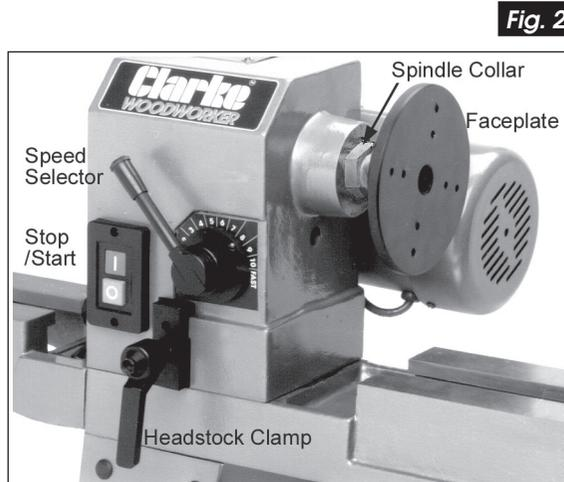

Fig. 2
### A. The Headstock (see fig.2)
The Headstock is further secured to the bed by a clamp (see fig. 2). The clamp should be firmly applied using the Handle (item 24A), and the headstock should then be solid with the bed.